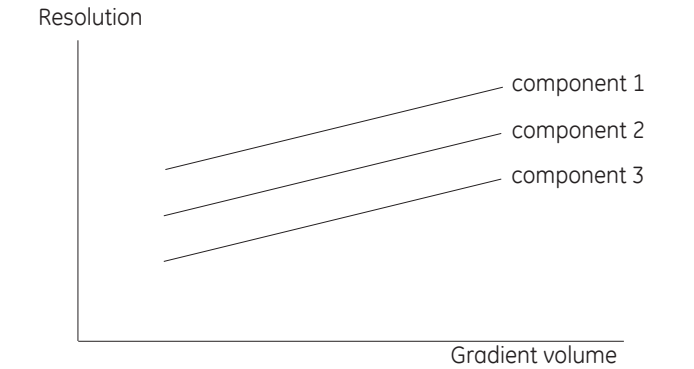
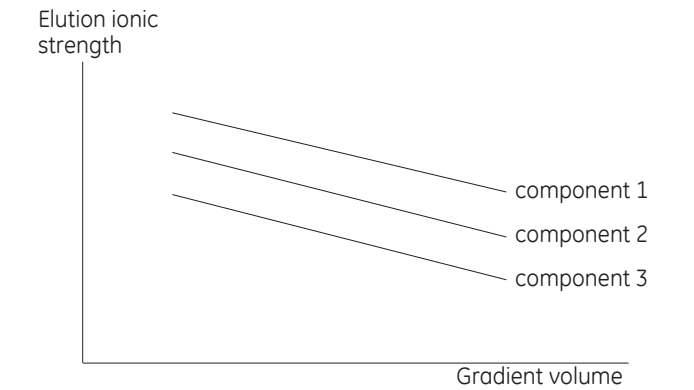

Fig 2.
Fig 3.
- Optimise the gradient volume to get the best resolution. The resolution increases with increasing gradient volume (Fig. 2, on page 3). At the same time, the elution ionic strength for the separated components is reduced (Fig. 3, on page 3).